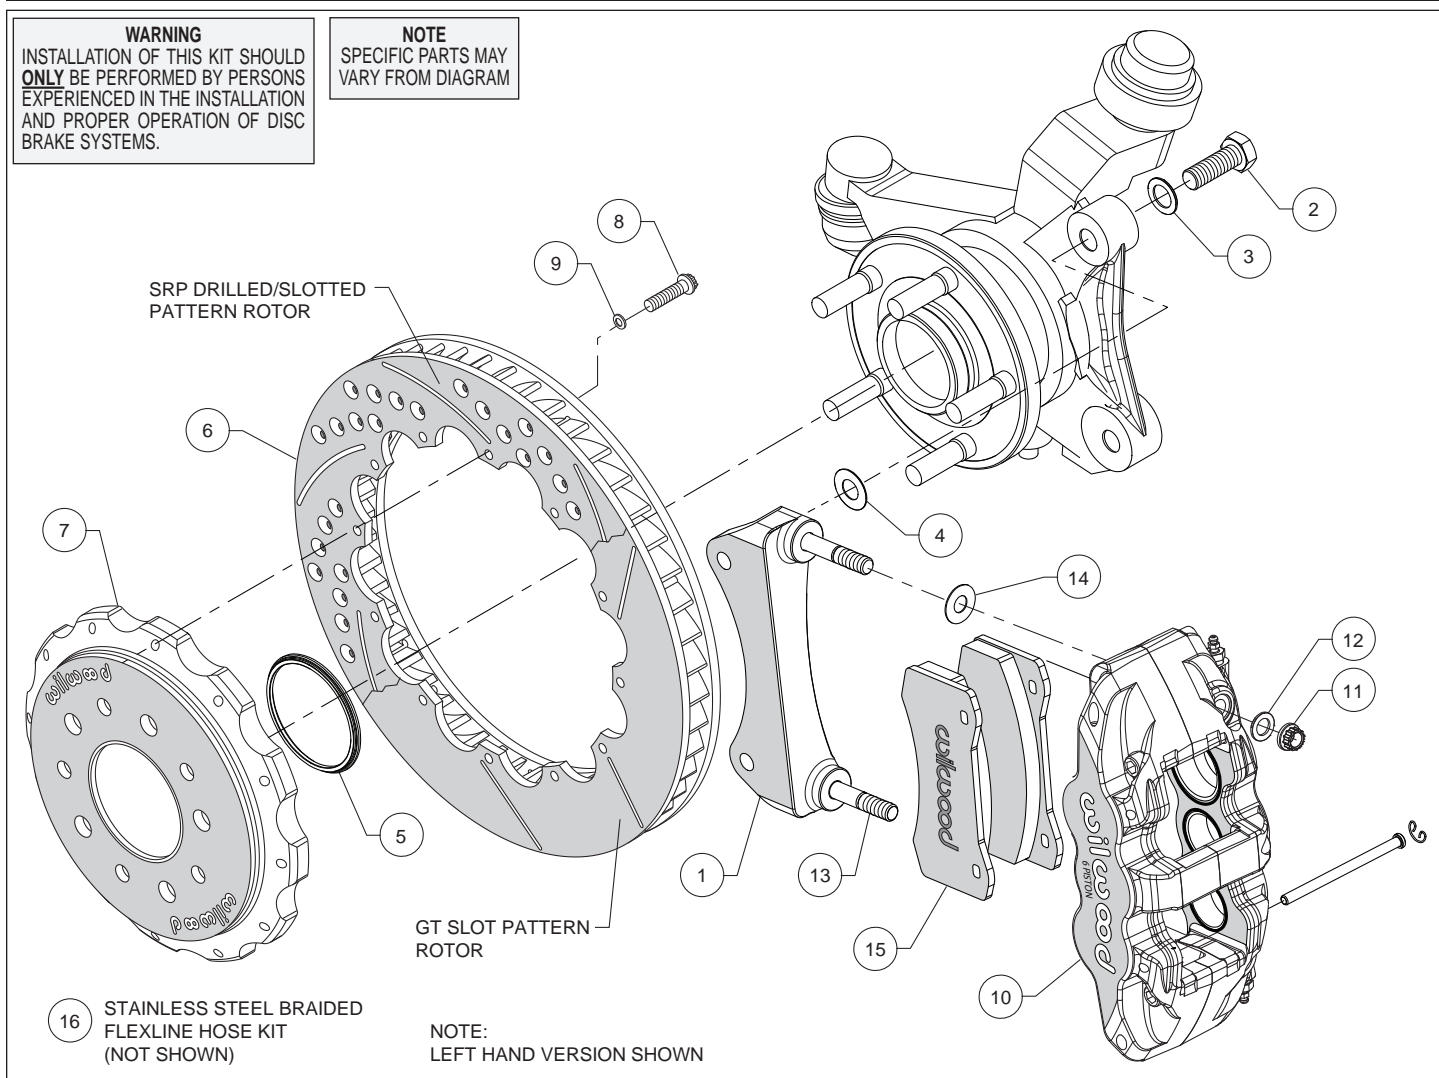
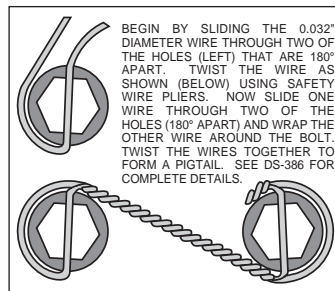

Figure 1. Typical Installation Configuration
Figure 3. Safety Wire Diagram
Assembly Instructions (numbers in parenthesis refer to the parts list and Figure 1 on the preceding pages):
- The caliper mount bracket (1) should initially be installed with clean, dry threads on the mounting bolts. Orient the bracket as shown in Figure 1 and Photo 1 and install using mount bolts (2) and washers (3). Initially place one .029" thick shim (4) on each bolt between the bracket and upright, Figure 1. Temporarily tighten the mounting bolts. **NOTE:** *The bracket must fit squarely against the mount bosses on the upright.* Inspect for interference from casting irregularities, machining ridges, burrs, etc. Later, after the caliper alignment has been checked, the mount bolts will be secured using red *Loctite*[®] 271.
- Orient the rotor (6) and the hat (7) as shown in Figure 1 and Photo 2. Attach rotor to hat using bolts (8) and washers (9). Using an alternating sequence, apply red *Loctite*[®] 271 to the threads, and torque to 155 **in-lbs**. For an added measure of security, the bolts may be safety wired using standard 0.032 inch diameter stainless steel safety wire as shown in Figure 3. Please refer to Wilwood's data sheet DS-386 (available at www.wilwood.com/Pdf/DataSheets/ds386.pdf) for complete safety wire installation instructions.
- Slide the rotor registration adapter (5) onto the axle register on the axle hub with the smaller O.D. facing outward, Figure 1 and Photo 3.
- **NOTE:** *This kit contains distinct right and left hand calipers that must be mounted in a specific direction, as described below.* Lubricate the caliper mounting studs (13) with lightweight oil. Initially place one .030" thick shim (14) on each stud between the caliper and the bracket, as shown in Figure 1 and Photo 6. Mount the caliper (10) onto the bracket (1) using lock nuts (11) and washers (12), Figure 1. Temporarily tighten the lock nuts. Ensure that the caliper is mounted so the largest pistons are at the rotor exit end of the caliper, in relation to the direction of the rotor. View the rotor through the top opening of the caliper. The rotor should be centered in the caliper, Photo 7. If not, adjust by adding or subtracting shims (4) between the bracket and the upright. Always use the same amount of shims on each of the two mounting bolts. Once the caliper alignment is correct, remove the bracket mounting bolts (2) one at a time, apply red *Loctite*[®] 271 to the threads, and torque to 77 ft-lbs.
caliper from the bottom, Figure 1 and Photo 8. With the friction material facing the rotor, secure the brake pads in place with the pad retaining pins and clips, Figure 1 and Photo 9. Reinstall the caliper onto the caliper mounting bracket and temporarily tighten the lock nuts. Check that the top of the brake pad is flush with the outside diameter of the rotor, Photo 10. If not, adjust by adding or subtracting shims (14) between the caliper and the bracket. After the caliper pad height is set, torque the caliper lock nuts (11) to 47 ft-lb.